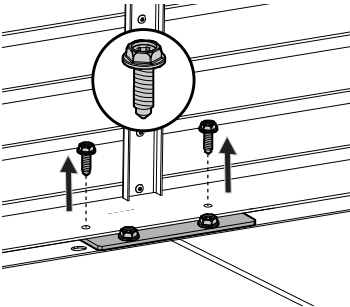

Fig. 22
- c. Install the top trim by fastening four 4H screws along the base of the trim with a 5/16" socket wrench (Fig. 22).